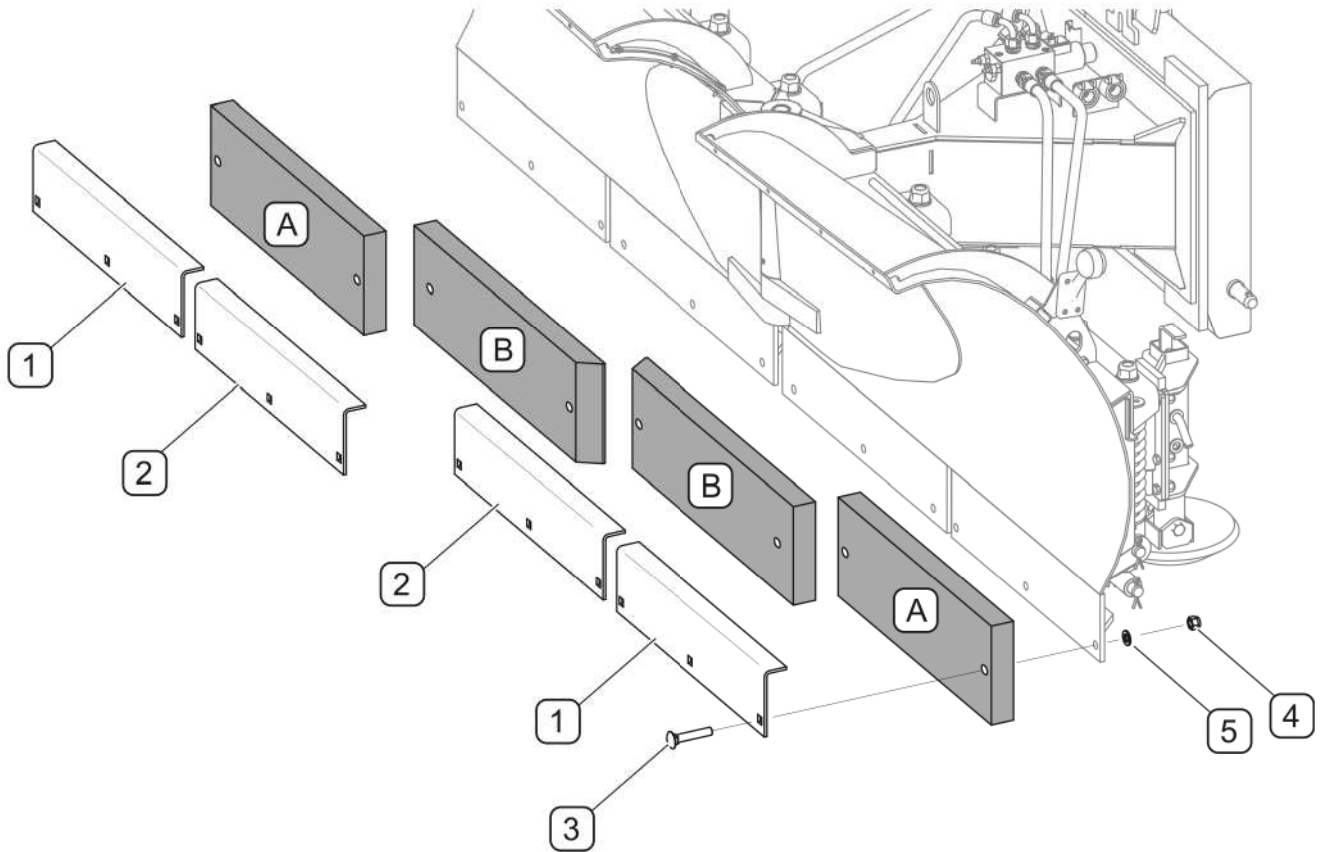

FIGURE 5.3 Replacement of rubber blades
* – used as external blade instead of (A) blade
Rubber blades of the snow plough's mouldboards (FIGURE 5.3) consist of external segments and internal segments. To remove blades, unscrew proper nuts (4), remove bolts (3) and remove cover plates (1) and (2). Install new blades and assemble them performing the above activities in reverse sequence. The blades that are worn on one side can be turned on the other side and reused. List of rubber blades is shown in TABLE 5.3